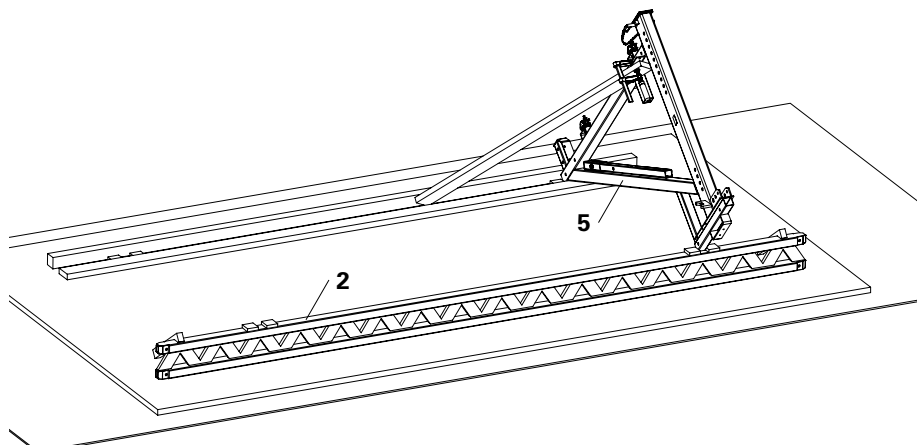

Fig. A1.03
– Diagonal bracing for securing bracket 1 plank 40 x 120 mm, L = 2.0 m (5) (Fig. A1.03)